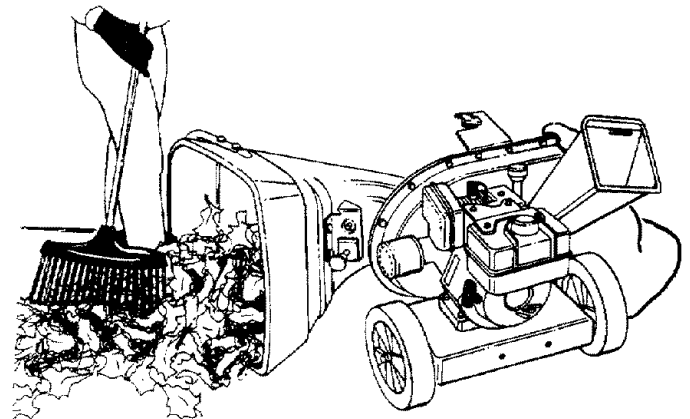
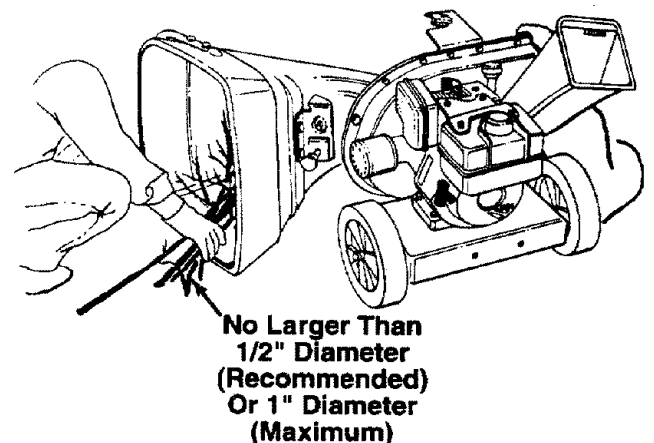

FIGURE 6.
FIGURE 7.
- Leaves and small twigs can be raked into the hopper assembly when the hopper assembly is lowered to the ground. See figure 6. Small branches up to 1/2" diameter (recommended) or 1" diameter (maximum) can also be fed into the hopper assembly in this position. See figure 7.